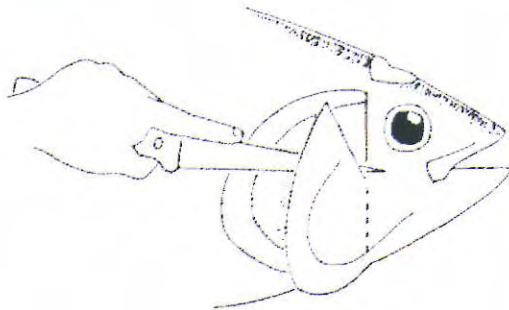

Figure 21. Saw off the gill cover or fold it back and fins removed.
Step 16 Optional. For easier processing, cut off a portion of the gill cover for better access to the gills and guts. Either use a saw or bend the gill plate back until it snaps in half, and then cut along the crease with a knife (Figure 21).